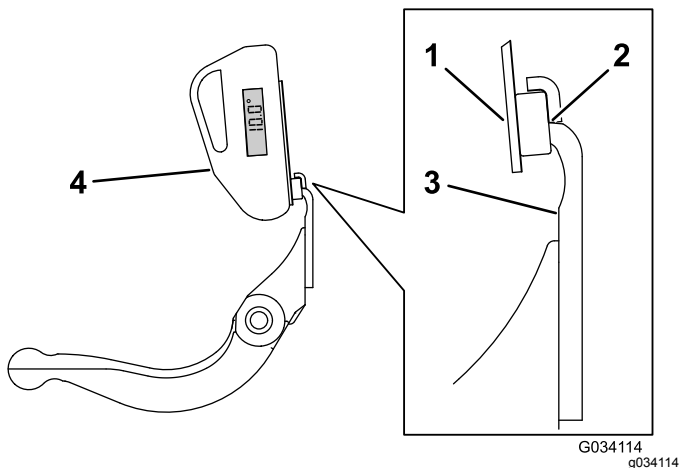

Figure 35
3. Place the angle-indicator mount on the edge of the bedknife so that the edge of the magnet is mated with the edge of the bedknife (Figure 35).
4. Place the angle indicator on the mount as shown in Figure 35.